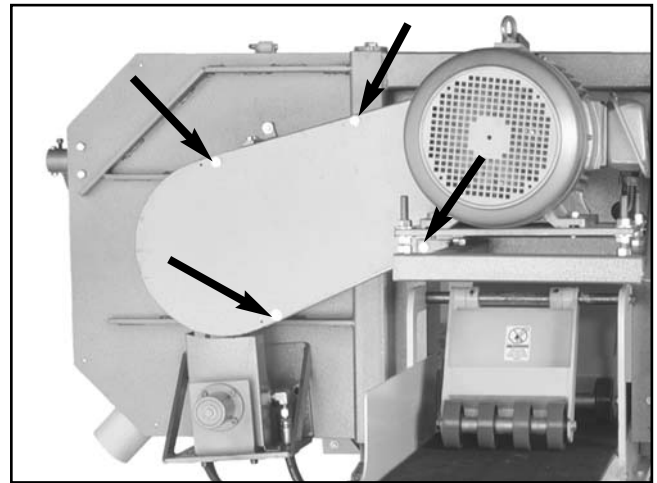

Figure 36. Large pulley cover attachment bolts.
2. Remove the four attachment bolts shown in **Figure 36**, and remove the large pulley guard from the machine.